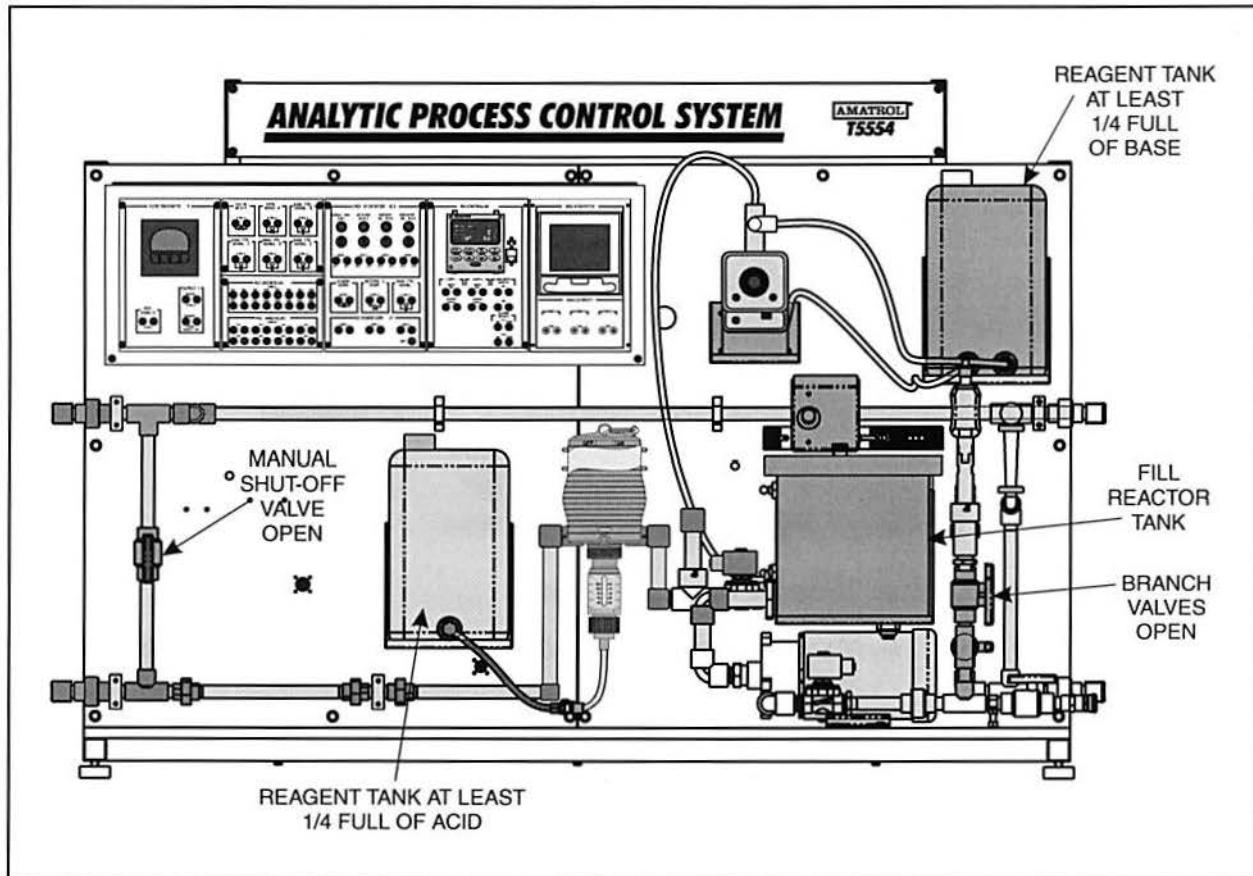

Figure 56. T5554 Setup
- 1. Perform the following substeps to make sure the T5554 Analytical Process Control System is set up as shown in figure 56.